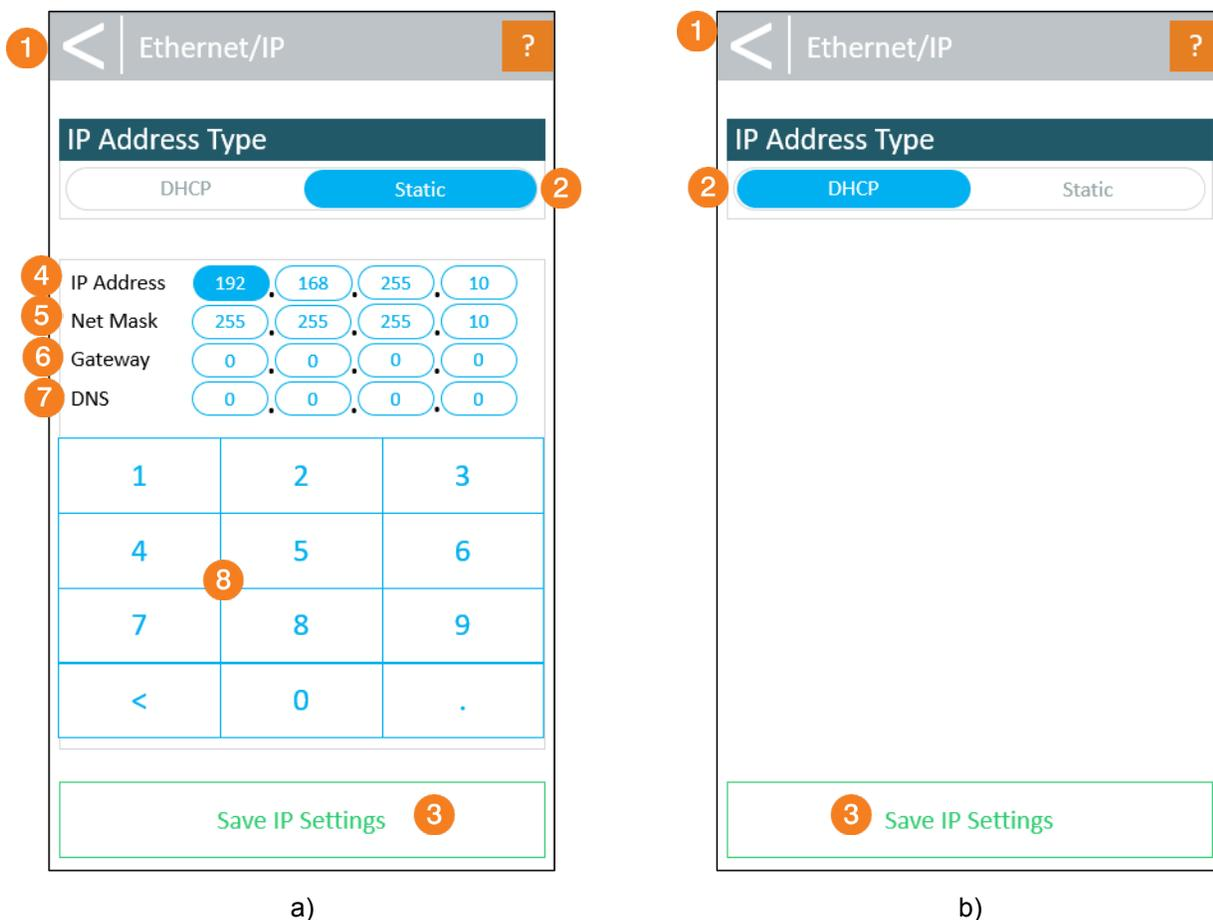

Figure 25 – *Ethernet/IP* Screen (on CLCS HMI only)
The **Ethernet/IP** screen allows the user to configure the Ethernet/IP for communication with the VeriFast™ MicroView 4.0. The two modes of communication via *DHCP* or *Static* are selectable by pressing on the corresponding button, see Figure 25.
- **DHCP:** The controller will be assigned an IP address via DHCP. ***IMPORTANT:*** By default, the DHCP button on this screen is unavailable (see Figure 25 a)). The DHCP button becomes available and can be selected (see Figure 25 b)) only after the DHCP option is enabled in the *Configuration Screen* (see page 28).
- 4 **IP Address:** Enter the IP address. Use the number keys (8) on the screen to specify each octet.
- 5 **Net Mask:** Enter the subnet mask. Use the number keys (8) on the screen to specify each octet.
- 6 **Gateway:** Enter the gateway address. Use the number keys (8) on the screen to specify each octet.
- 7 **DNS:** Enter the DNS address. Use the number keys (8) on the screen to specify each octet.